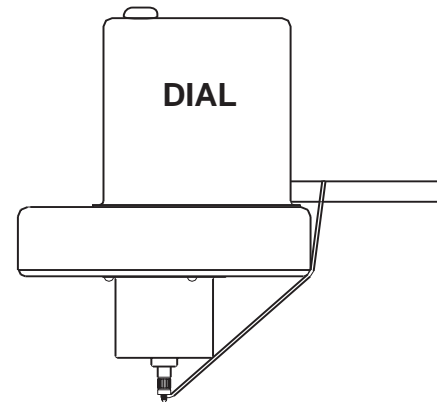

Figure G1
- Support pointer shaft with rubber band as shown in Figure G1, or use shipping cap originally supplied with new instrument.